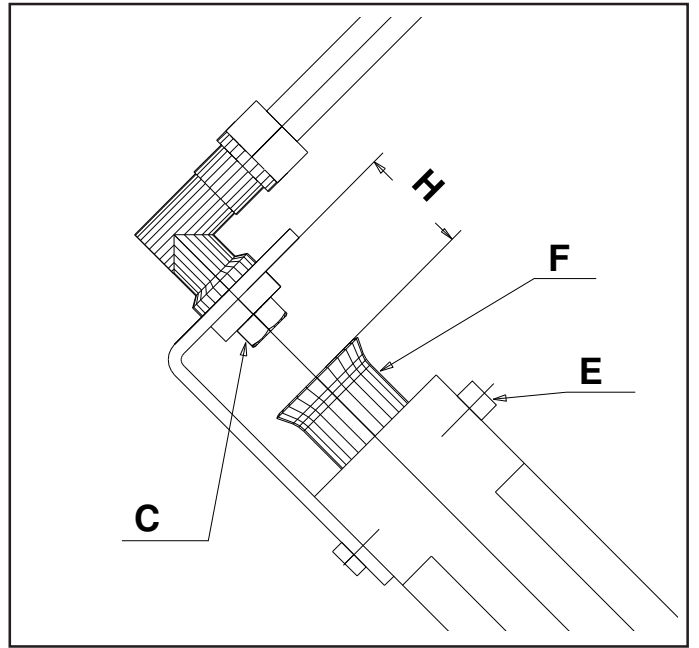

FIG. 2
3.2 ADJUSTMENT OF THE PRIMARY AIR (Fig.2)
4.1 CHANGING THE INJECTOR FOR THE MAIN BURNER (Fig.2)
4.1.1 MAIN BURNER (Fig.2)
4.2 ADJUSTMENT OF THE PRIMARY AIR (Fig.2)
The recommended distance for adjusting the primary air for the burners in the gas hob is shown in Fig. 2 and indicated in Table 2.